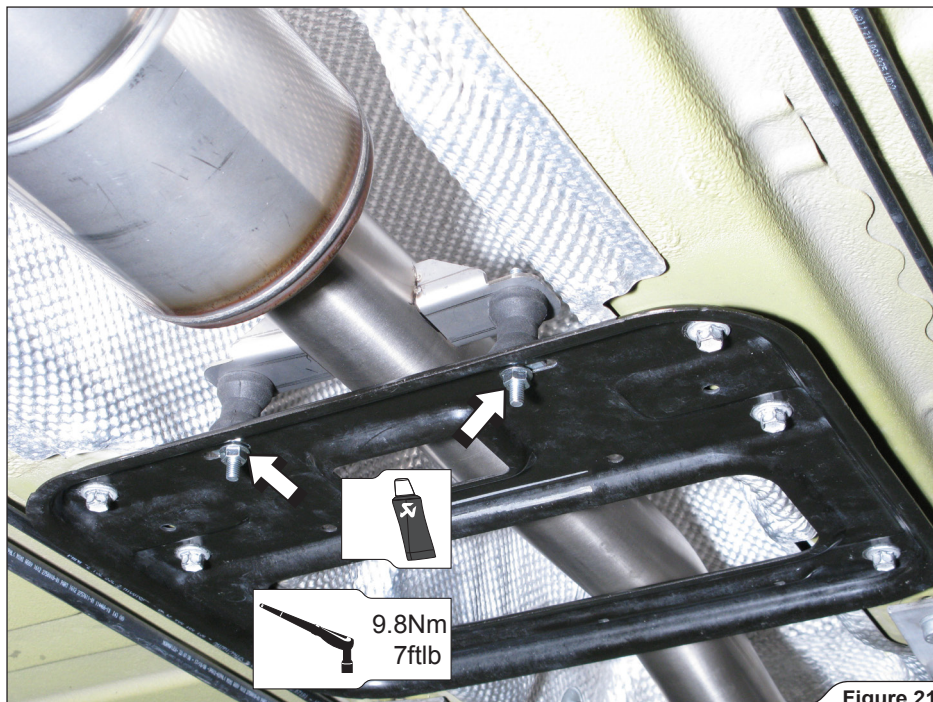

Figure 21
10. **For Evolution:** tighten the additional rubber dampers onto the reinforcement plate (**Figure 21**).